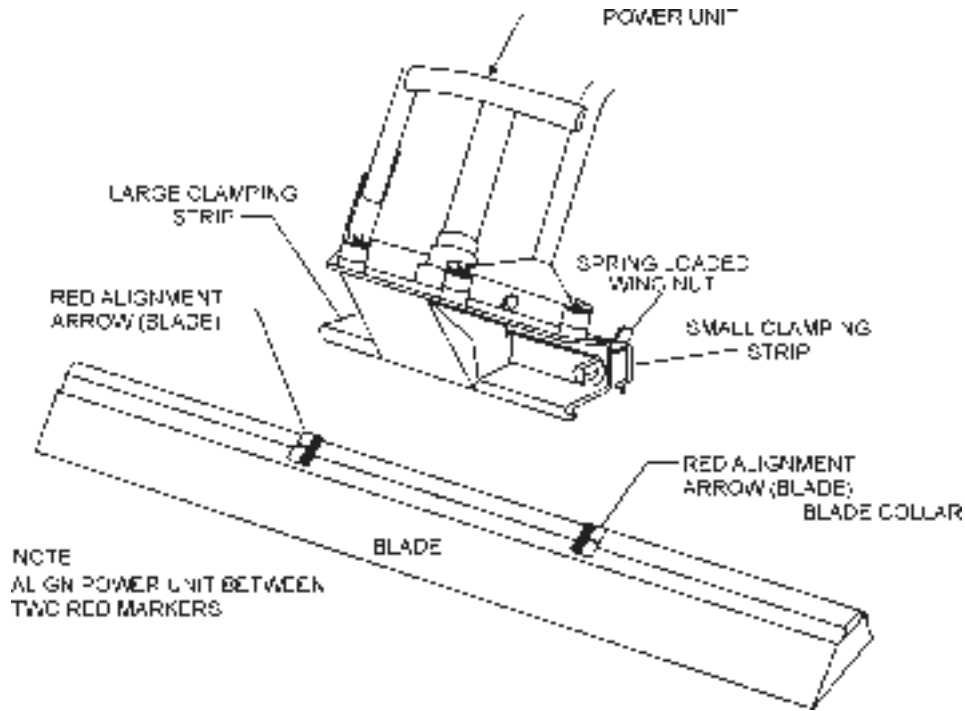

Figure 4. Blade Mounting Diagram
5. Locate the two red indicator arrows (Figure 4) on the top of the blade. The power unit should be placed squarely between the two markers.